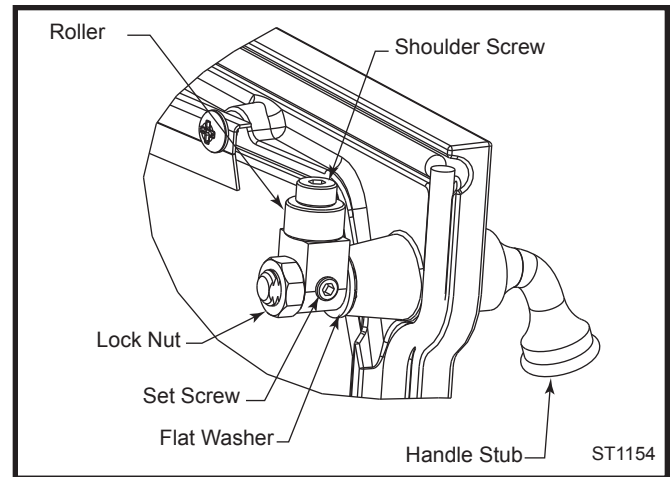

Fig. 44 Rotate pawl and/or remove flat washer to adjust latch.
1. Remove and retain the lock nut with a 9/16" wrench. (Fig. 44)
- Inspect for and remove ash build-up behind the combustion package. This should be done in conjunction with annual cleaning of the chimney connector. Inspect the passage behind the combustion package (a mirror will be helpful) and vacuum away ash using a flexible vacuum hose inserted the passage. (Fig. 44)